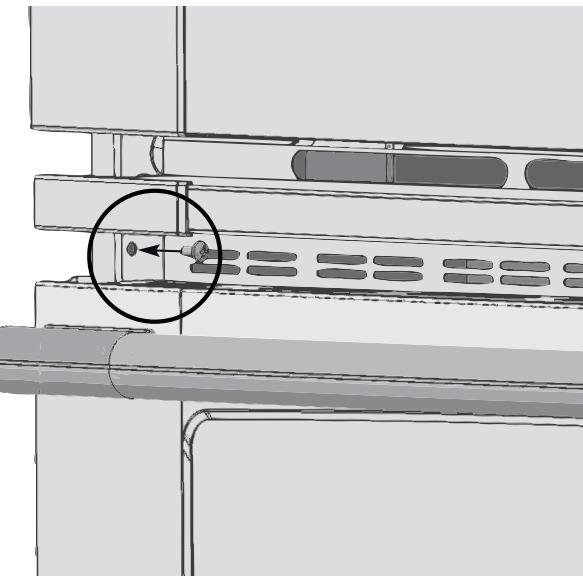

Figure 10
- The mounting holes in the side trims may be used as a template to locate the appliance mounting screw holes (see figure 10).